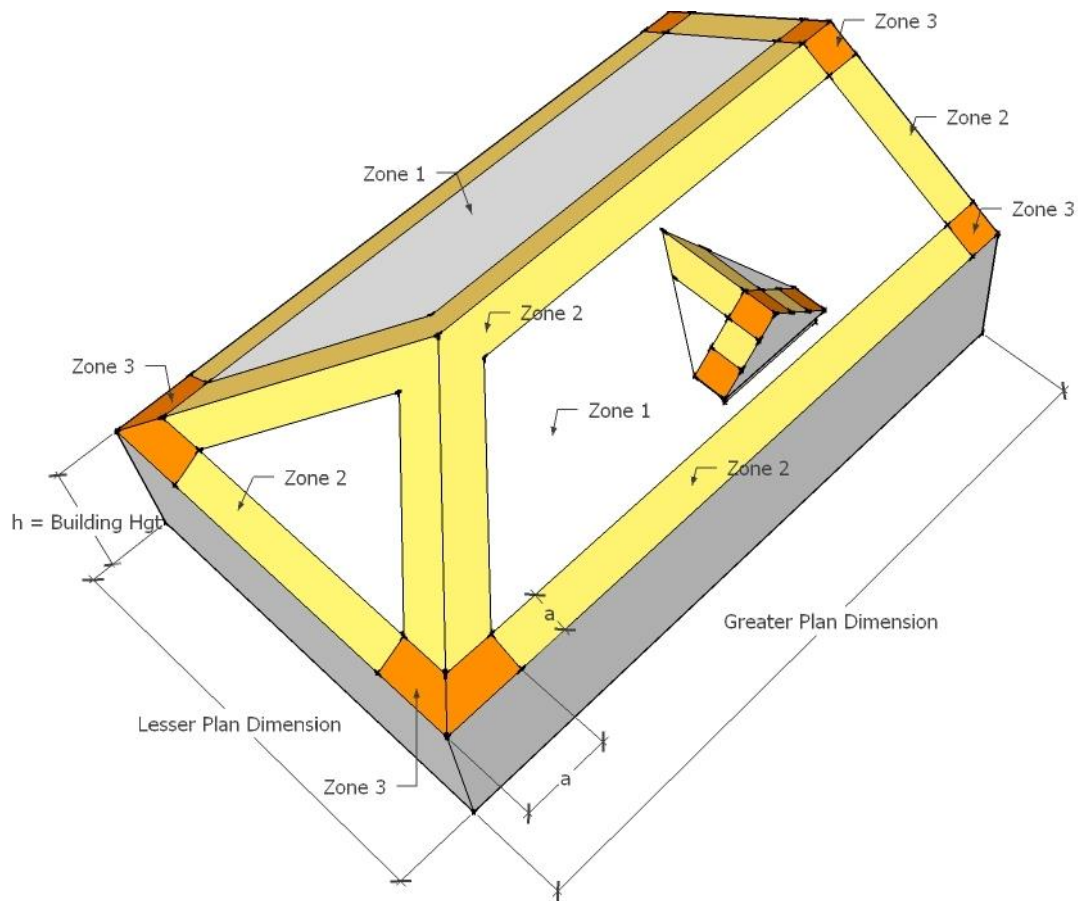

Figure 5: Roof Zones
- Panels should be hemmed around drip edges and cleats at lowest points to allow for expansion and contraction. Panel hemming is performed in field by installer. Refer to *Table 2* “Thermal Gap Installation Chart” and *Figure 5* for hem lengths and gap settings.
- Notch vertical legs back from eave end of panel equal to hem length (nominally 1 inch or maximum dimension provided by *Figure 5*).
- Install second panel by loosely lapping female leg over male leg. Let lower panel end (eave end) extend off roof edge so panel hem does not interfere with drip edge. With hand pressure, snap down lower end of panel only so that panel hem is below extended lip of drip edge. Carefully slide panel up slope to fully engage panel hem around lip of drip edge. Set expansion gap as indicated in *Figure 5*. Snap down female rib onto male rib with hand pressure starting at eave and working upslope. CAUTION: Use of hammer or mallet to snap panels together may damage panel rib or cause panels to dent at fastener locations.